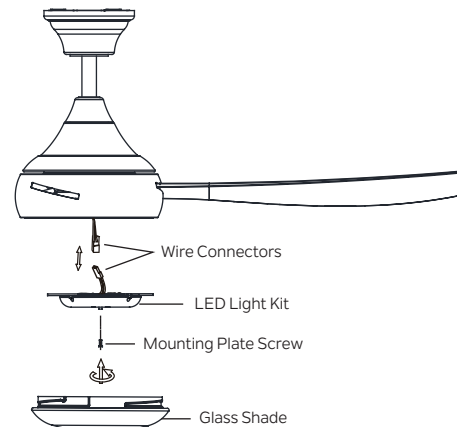

Fig. 20
Step 1. Loosen two of the mounting plate screws on the mounting plate, and remove and save the third mounting plate screw. **(Fig. 20)**
Step 2. While holding the light kit under your ceiling fan, push the square wire connectors together. One from the fan and one from the light kit. **(Fig. 20)**
Replace the third mounting plate screw that was previously removed, and tighten all 3 mounting plate screws to secure. **(Fig. 20)**
Step 4. Raise the glass shade up to the fan, seat against the mounting plate, and turn clockwise into the mounting plate until snug, **DO NOT OVER TIGHTEN.** **(Fig. 20)**